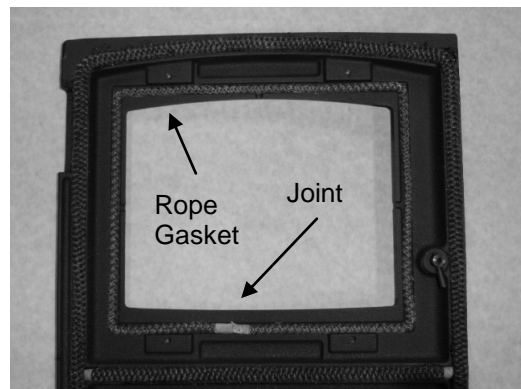

**Fig. 8. Rope Replacement**
- Press the rope gasket into the channel on the rear of the door casting, following the same layout as the old rope seal. See Fig. 8.